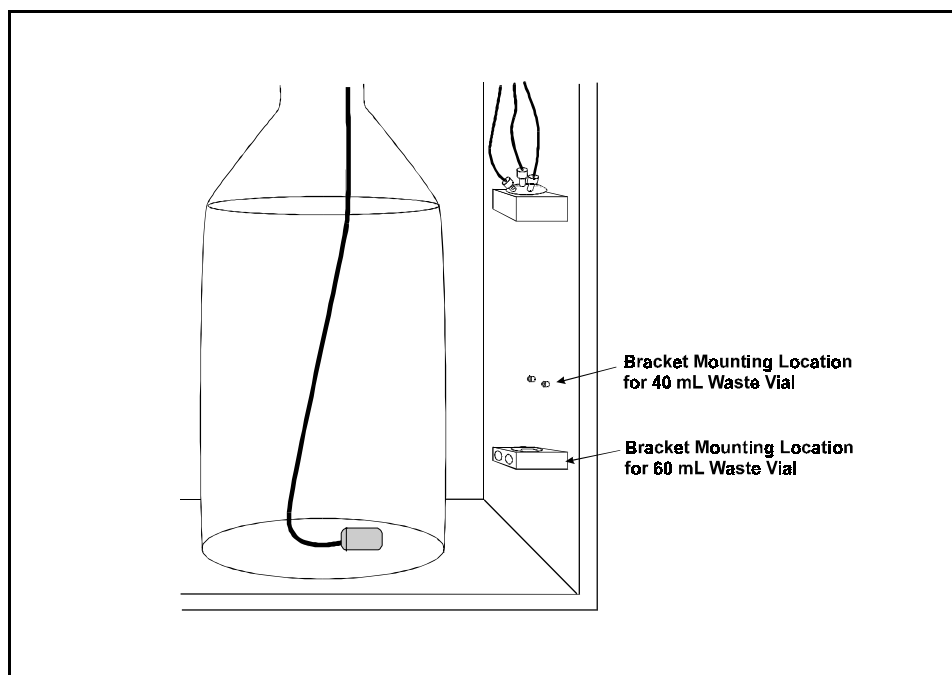

Figure B-7. Waste Bracket Mounting Locations
7. Use a 40 mL or a 60 mL collection vial for waste collection. The waste vial installs in a holder on the right inside wall of the solvent reservoir compartment (see Figure B-7). The bottom bracket of the holder can be installed in one of two locations, depending on the size of the waste vial (see Figure B-7). The upper location is for 40 mL vials and the lower location is for 60 mL vials. If necessary, remove the two mounting screws (using a 2.5-mm Allen wrench or a Phillips head screwdriver) and reattach the bracket in the correct location.